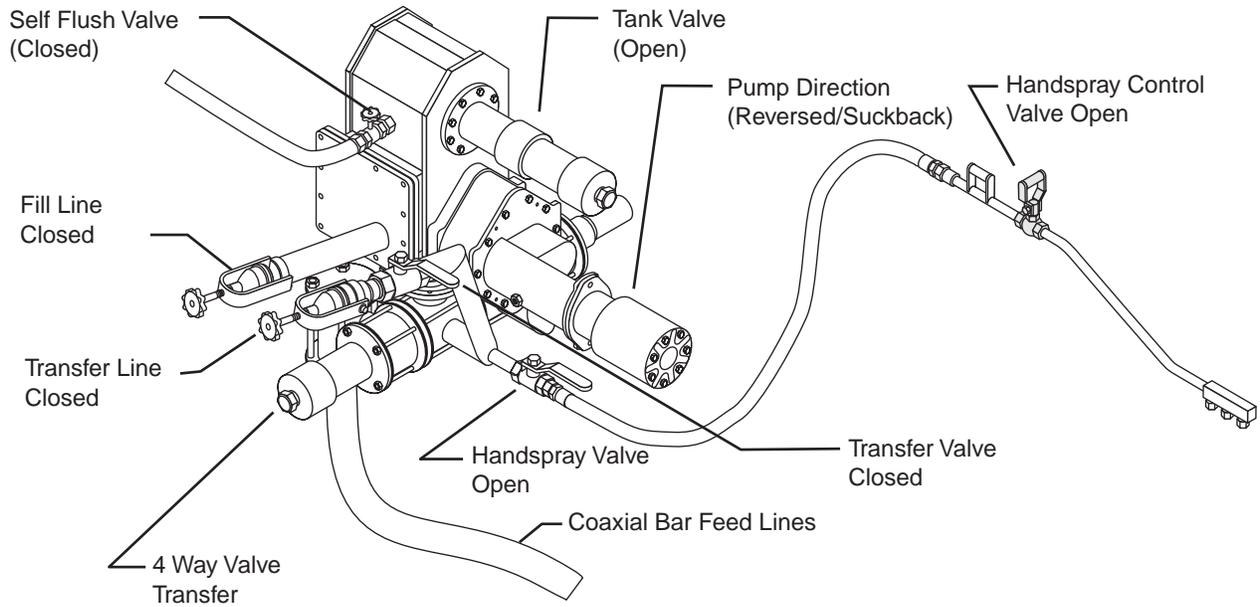

Figure 9. Valve Positions for Handspray Suckback
1. Set the *Pump Direction Switch* to *Reversed/Suck-back* (see Figure 9).